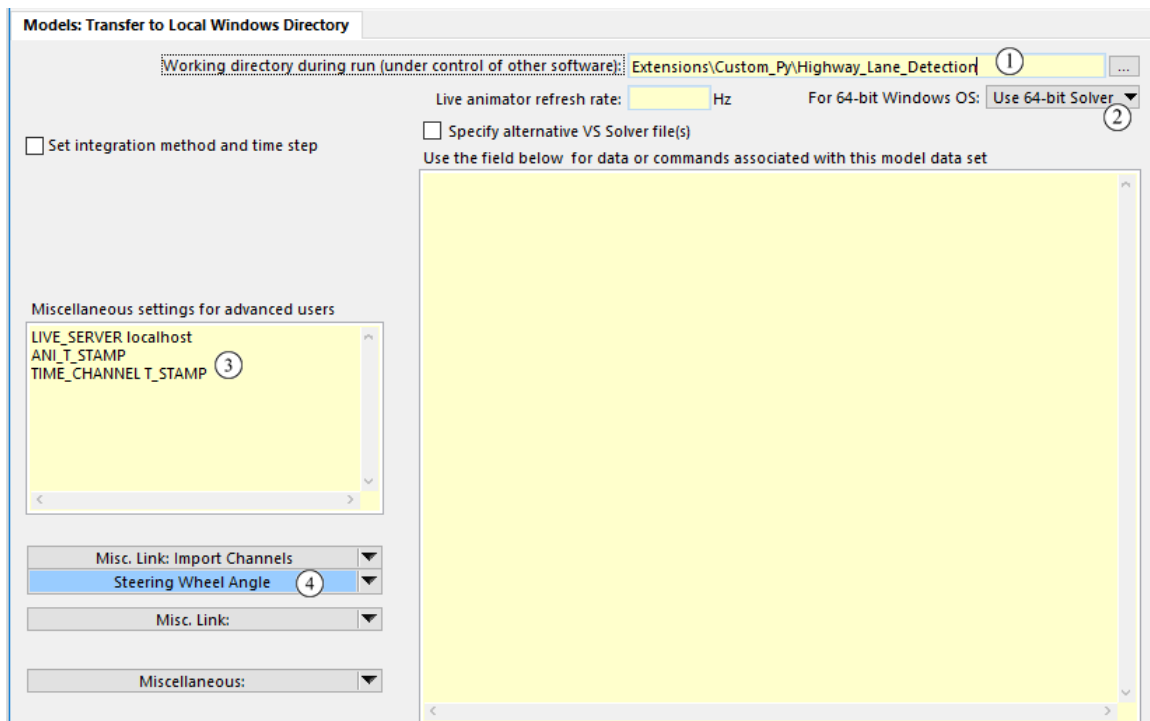

Figure 23. Simfile Generator Dataset.
This dataset specifies a working directory during the simulation ① (Figure 23) and it should be set to `Extension\Custom_Py\Highway_Lane_Detection`. The solver is set to use 64-bit ② since Python 3.x is used. `ANI_T_STAMP` and `TIME_CHANNEL T_STAMP` commands are included for live animation ③. In this example, Steering Wheel Angle is imported.